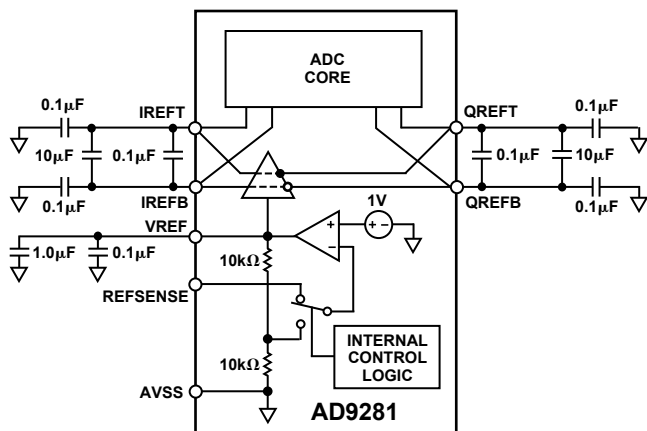

Figure 26. Reference Buffer Equivalent Circuit and External Decoupling Recommendation
The reference and buffer circuitry on the AD9281 is configured for maximum convenience and flexibility. An illustration of the equivalent reference circuit is shown in Figure 26. The user can select from five different reference modes through appropriate pin-strapping (see Table I below). These pin strapping options cause the internal circuitry to reconfigure itself for the appropriate operating mode.
**Reference Buffer**—The reference buffer structure takes the voltage on the VREF pin and level-shifts and buffers it for use by various sub-blocks within the two A/D converters. The two converters share the same reference buffer amplifier to maintain the best possible gain match between the two converters. In the interests of minimizing high frequency crosstalk, the buffered references for the two converters are separately decoupled on the IREFB, IREFT, QREFB and QREFT pins, as illustrated in Figure 26.
For best results in both noise suppression and robustness against crosstalk, the 4-capacitor buffer decoupling arrangement shown in Figure 26 is recommended. This decoupling should